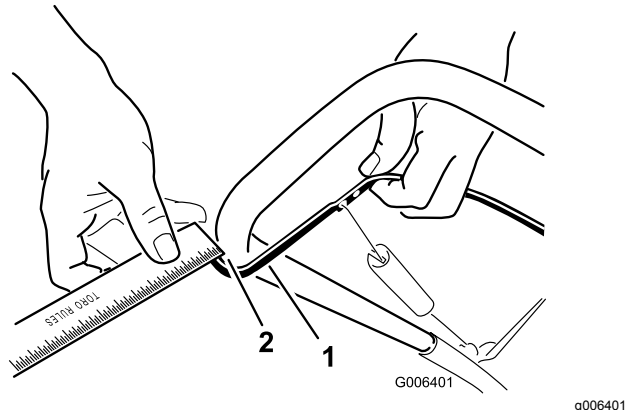

Figure 17
Move the control bar back toward the handle to remove the slack in the control cable (Figure 17).
Note: Ensure that a 2 to 3 mm (1/16 to 1/8 inch) gap exists between the control bar and the handle (Figure 17).
- Move the Z-fitting to a higher or lower hole on the adjuster link as needed to obtain the 2 to 3 mm (1/16 to 1/8 inch) gap between the control bar and the handle (Figure 17).